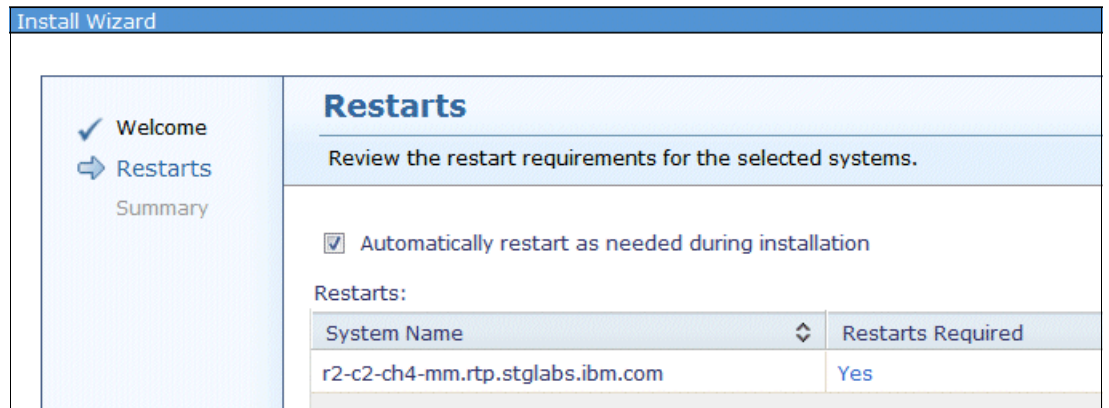

Figure 6-89 Install Wizards Restarts window
2. An installation wizard is displayed. Click **Next** through the initial Welcome window. The Restarts section shows whether restart of the device is required, as shown in Figure 6-89. Click **Next**.